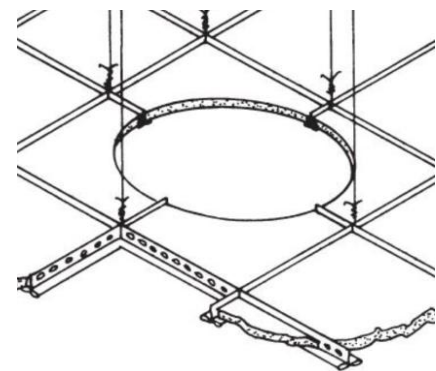

FIGURE 3
- **Lay-in or Suspended Ceilings:** Cut acoustical tiles and metal framework. (*figure 3*). When in place, tiles will rest on the edge of the dome and framework.